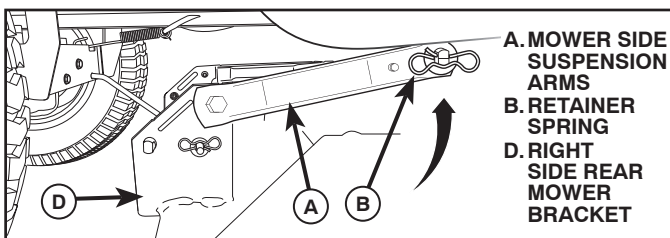

Fig. 12
## 6. ATTACH MOWER SIDE SUSPENSION ARMS (A) TO CHASSIS (See Fig. 12)
- Position front hole in side suspension arm (A) over pin on outside of tractor chassis and secure with large washer and large retainer spring (B).